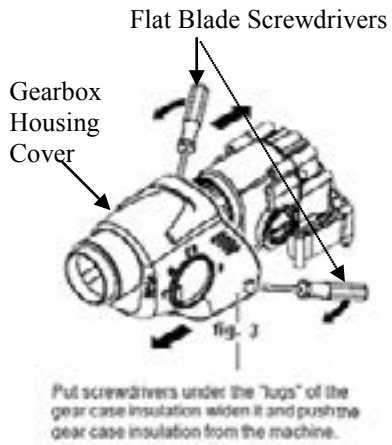

fig. 3
19, 33 Release locking tabs on gearbox cover (33) using two flat bladed screwdrivers when removing from gearbox assembly (19). [see fig. 3]